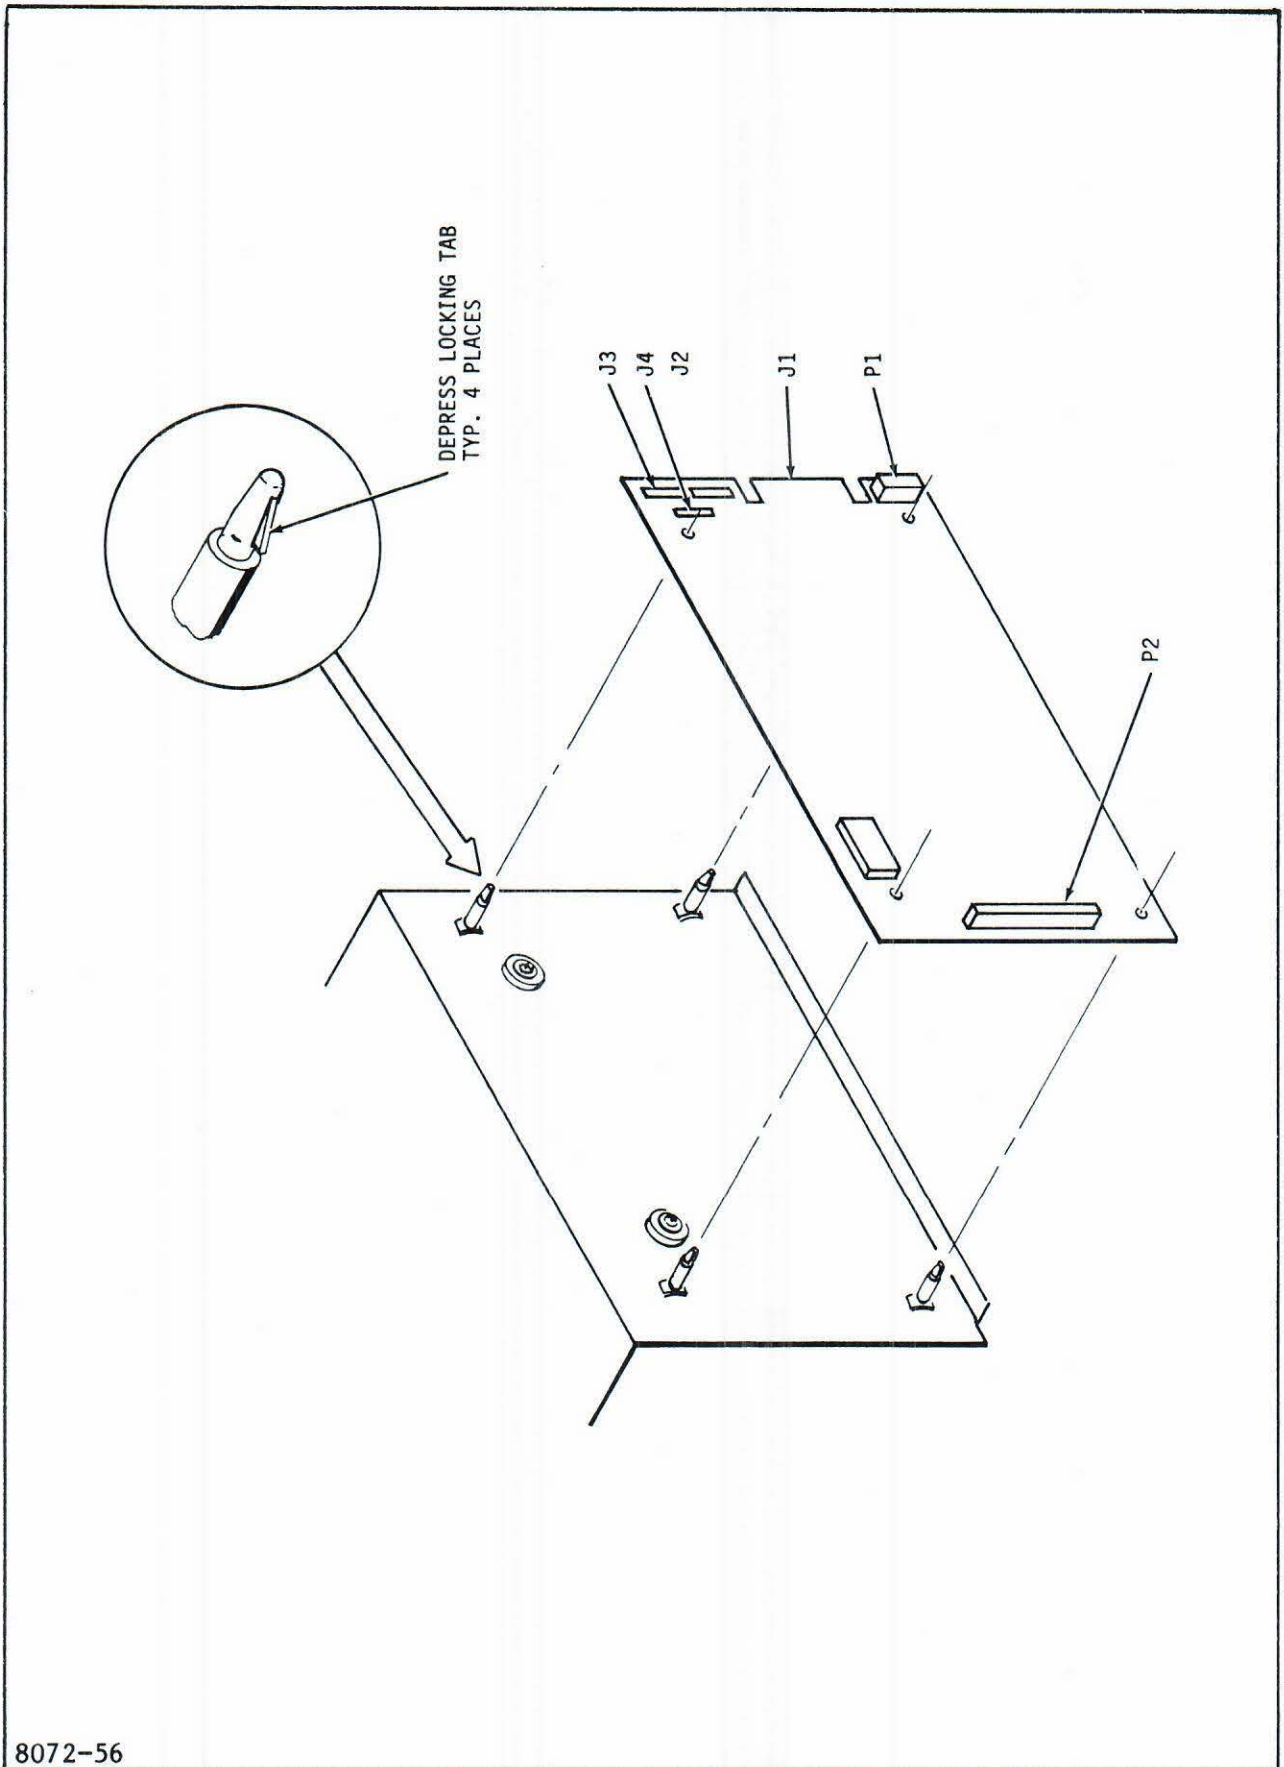

Figure 7-22. Controller PCBA Removal
3. Using a flat object (screwdriver or letter opener) depress the locking tabs on the four mounting studs and remove controller board. (See figure 7-22.)
3. Using a flat object (screwdriver or letter opener) depress the locking tabs on the four mounting studs and remove the power supply board. (See figure 7-22.)